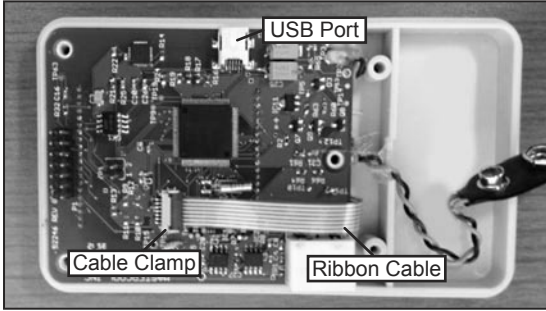

Figure 2
3. Remove the back of the unit taking care that the PC board does not fall out. (Figure 2)
4. Plug a USB cable into USB Port. (See Figure 2)